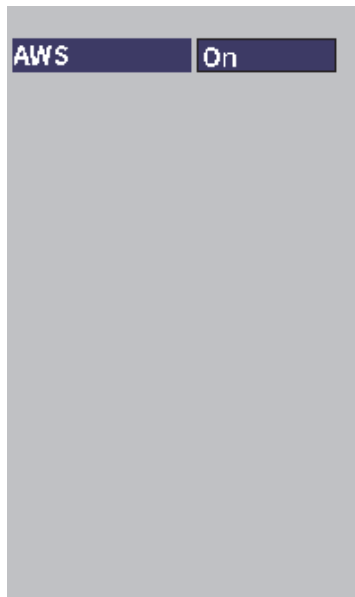

Figure 11-24 AWS dialog box
2. Select the **AWS** icon () to open the AWS dialog box (see Figure 11-24 on page 202). See “Navigating Dialog Boxes and Setup Pages” on page 39 for details on using dialog boxes.